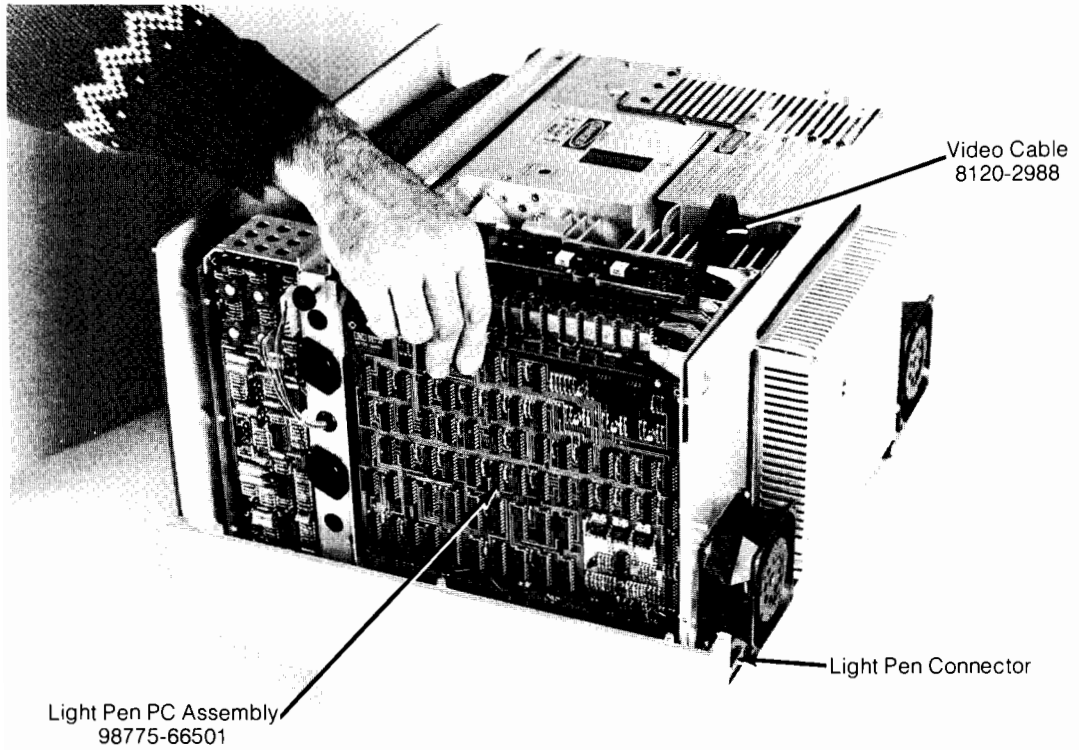
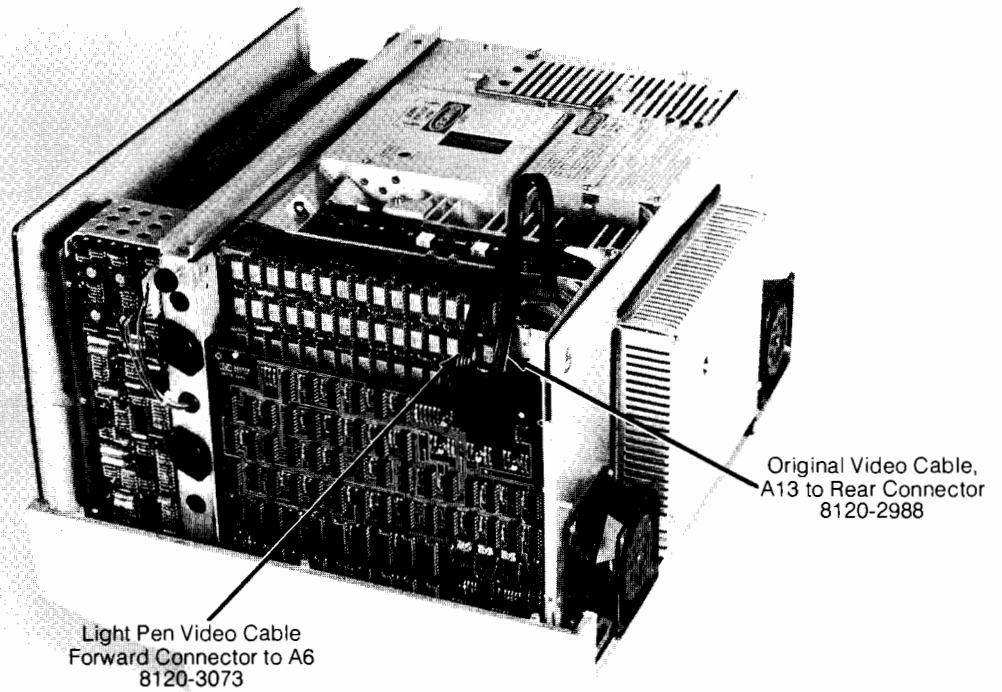

Figure 7-1. Light Pen PC Assembly Installation
Figure 7-2. Video Cable Connections
- Install the light pen PC assembly (98775-66501) into the empty PC slot at the right side of the display chassis (see Figure 7-1).
- Disconnect the video cable from the A6 assembly (Figure 7-1) and connect it to the rear connector on the 98775-66501 assembly (Figure 7-2). The other end of this cable remains connected to the A13 (A33, A53 or A54) assembly.